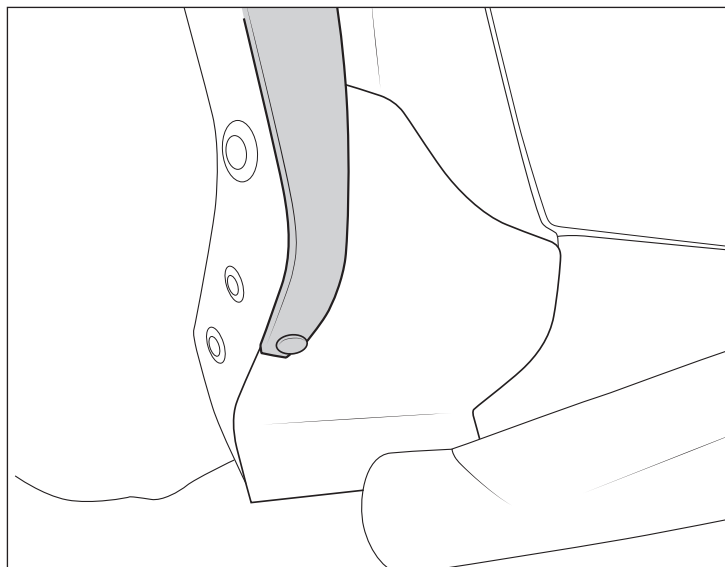

Figure 8
4. ZR2 Flares: Drill 3/16" hole through bottom of the fender flare and spat. Install plastic push rivet to secure bottom edge of flare (fig. 8).